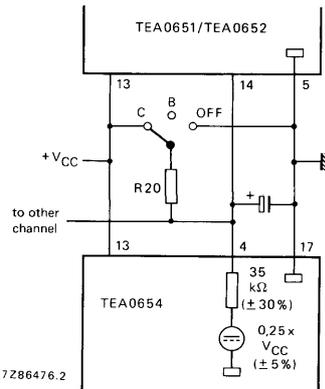

Fig. 10 Optional external time constant for mode switch.
$V_{CC} = 14 V$ ;  $f = 20 Hz$  to  $20 kHz$ ;  $T_{amb} = 25 °C$ ; all levels with reference to  $387,5 mV = 0 dB = -6 dBm$  at test point 1 in Fig. 2; record mode; unless otherwise specified; for graphs see Figs 10 to 16.
4. For a typical application see Fig. 10. Worst case considerations for the  $V_{CC}$  range from 8 V to 20 V limit the optional external resistor to maximum 6,8 k $\Omega$ , divided by number of switched channels.
5. In the open position (B) of the mode switch pin 14 of TEA0651/TEA0652 is pulled to typical 0,25 x  $V_{CC}$  by pin 4 of TEA0654.